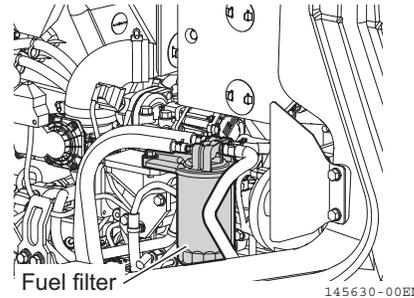

Fig. 8-58
2. Place the container for fuel under the fuel filter (**Fig. 8-58**).